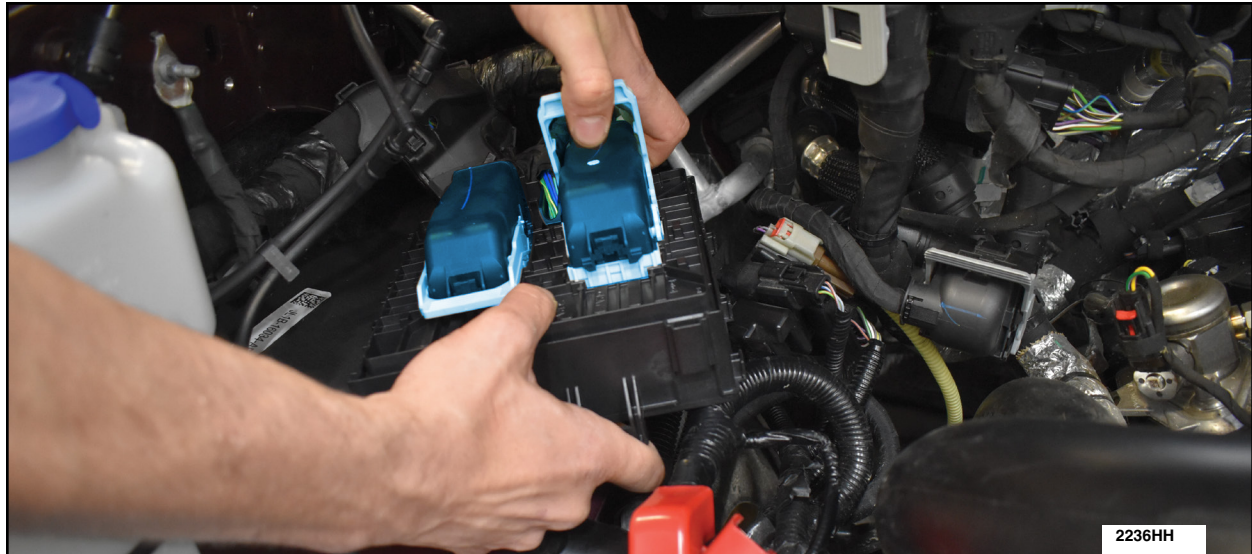

FIGURE 13
15. Disconnect the three wire harness connectors from the BJB. See Figure 13.